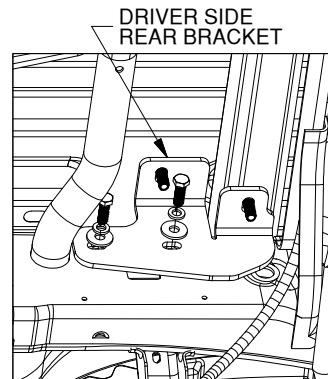

Figure C4: View looking up at driver side frame
6. **Install the driver side rear bracket.** Locate the driver side rear bracket, two M12 x 35mm hex head bolts (shorter), two 1/2" split lock washers, and two 1/2" flat washers. Position the bracket under the installation location of the two driver side carriage bolts. Maneuver the bracket so that the 1/2" carriage bolts passes through the slots at the top of the bracket. Using 1/2" lock washers and 1/2" flat washers, Thread the shorter (35mm) M12 hex head bolts into the frame through the holes in the bracket, see Figure C4.